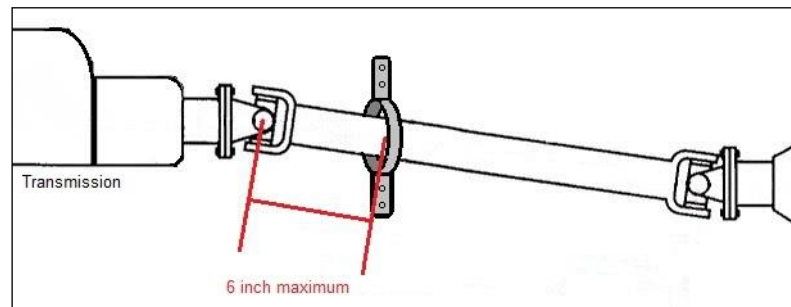

Figure 9
- A. All vehicles must have a driveshaft retaining loop mounted within 6 inches of the forward most universal joint and be securely attached to a body or frame structure as in Figure 9.